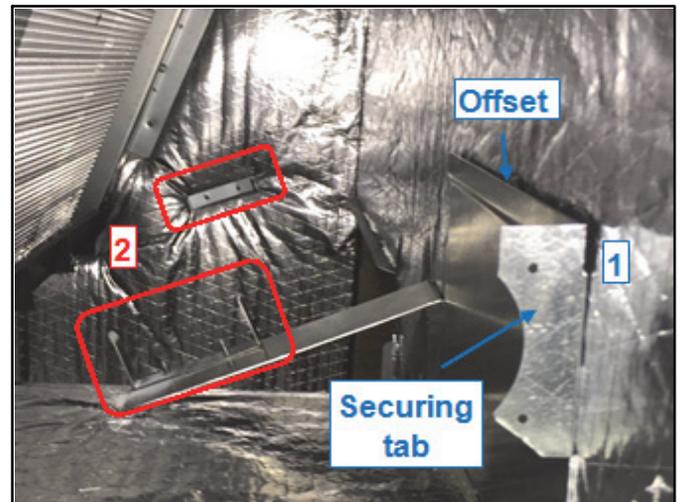

Figure 2. Ballast Box Support Bracket (1) and PCO Cartridge Support Clips (2)
4. Ballast box is now ready to hang on bracket offset and securing tab (see figure 2).
1. Align PCO cartridge with support clip on the back compressor wall (see figure 2 on page 3) with the lampholder end closest to you and the airflow arrow pointing upward.
4. Slide out the PCO cartridge from the bracket support clip and then slide PCO cartridge out from back clip (figure 2 on page 3).